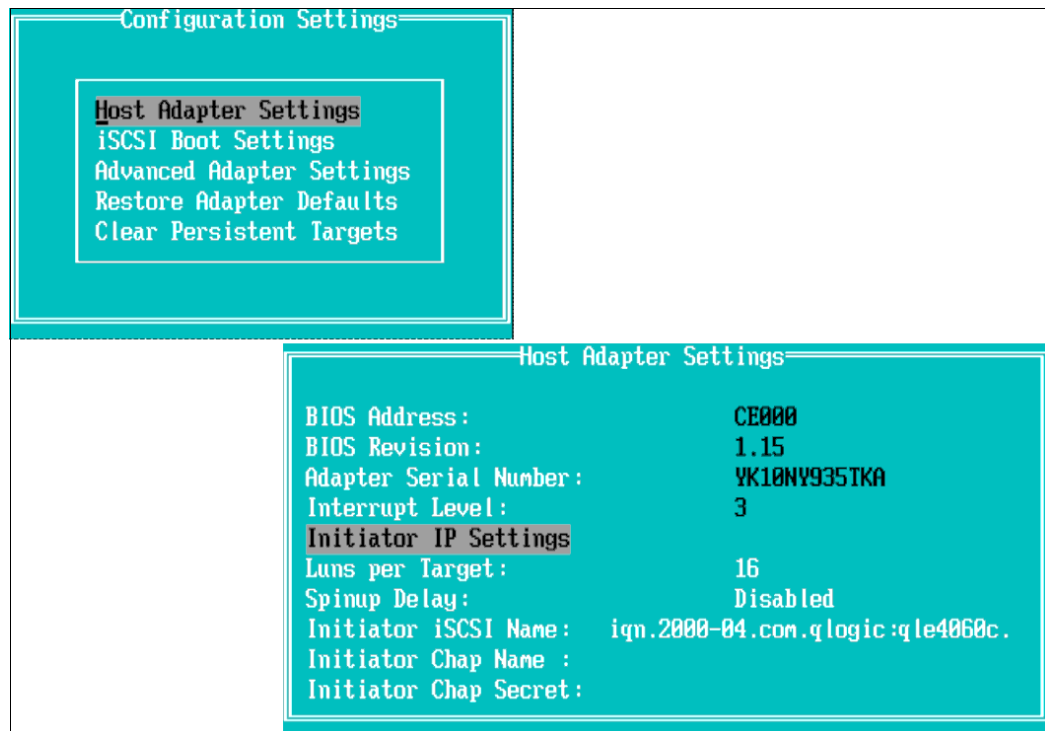

Figure 6-9 Host Adapter Settings window
4. Select **Host Adapter Settings** and press Enter to input the HBA configuration parameters, as shown in Figure 6-9.
By pressing Enter on the **Initiator IP Settings** selection as shown in Figure 6-9, a new window is displayed where all IP settings can be changed.